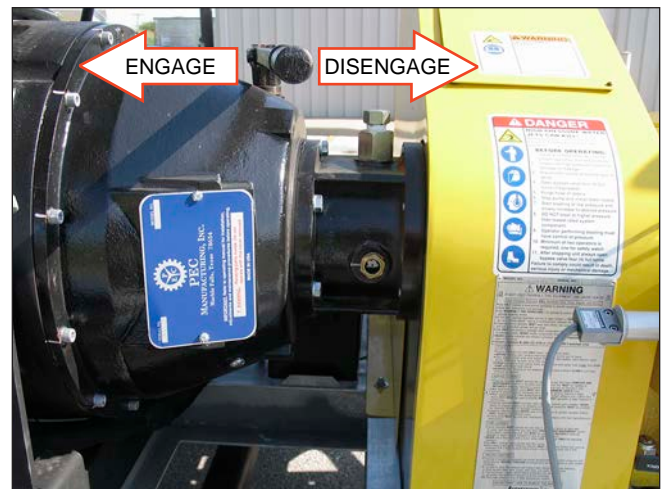

Figure 32: Clutch Engagement.
9. Engage the clutch by firmly pulling or pushing the lever towards the engine. Only engage the clutch with the engine at idle speed (Figure 32).
6. 5200 pump differences: The plumbing arrangement is slightly different on the 5200 power end. It is located in the rod box and the adjustable flow controls are integrated into the elbow fittings (Figure 32).